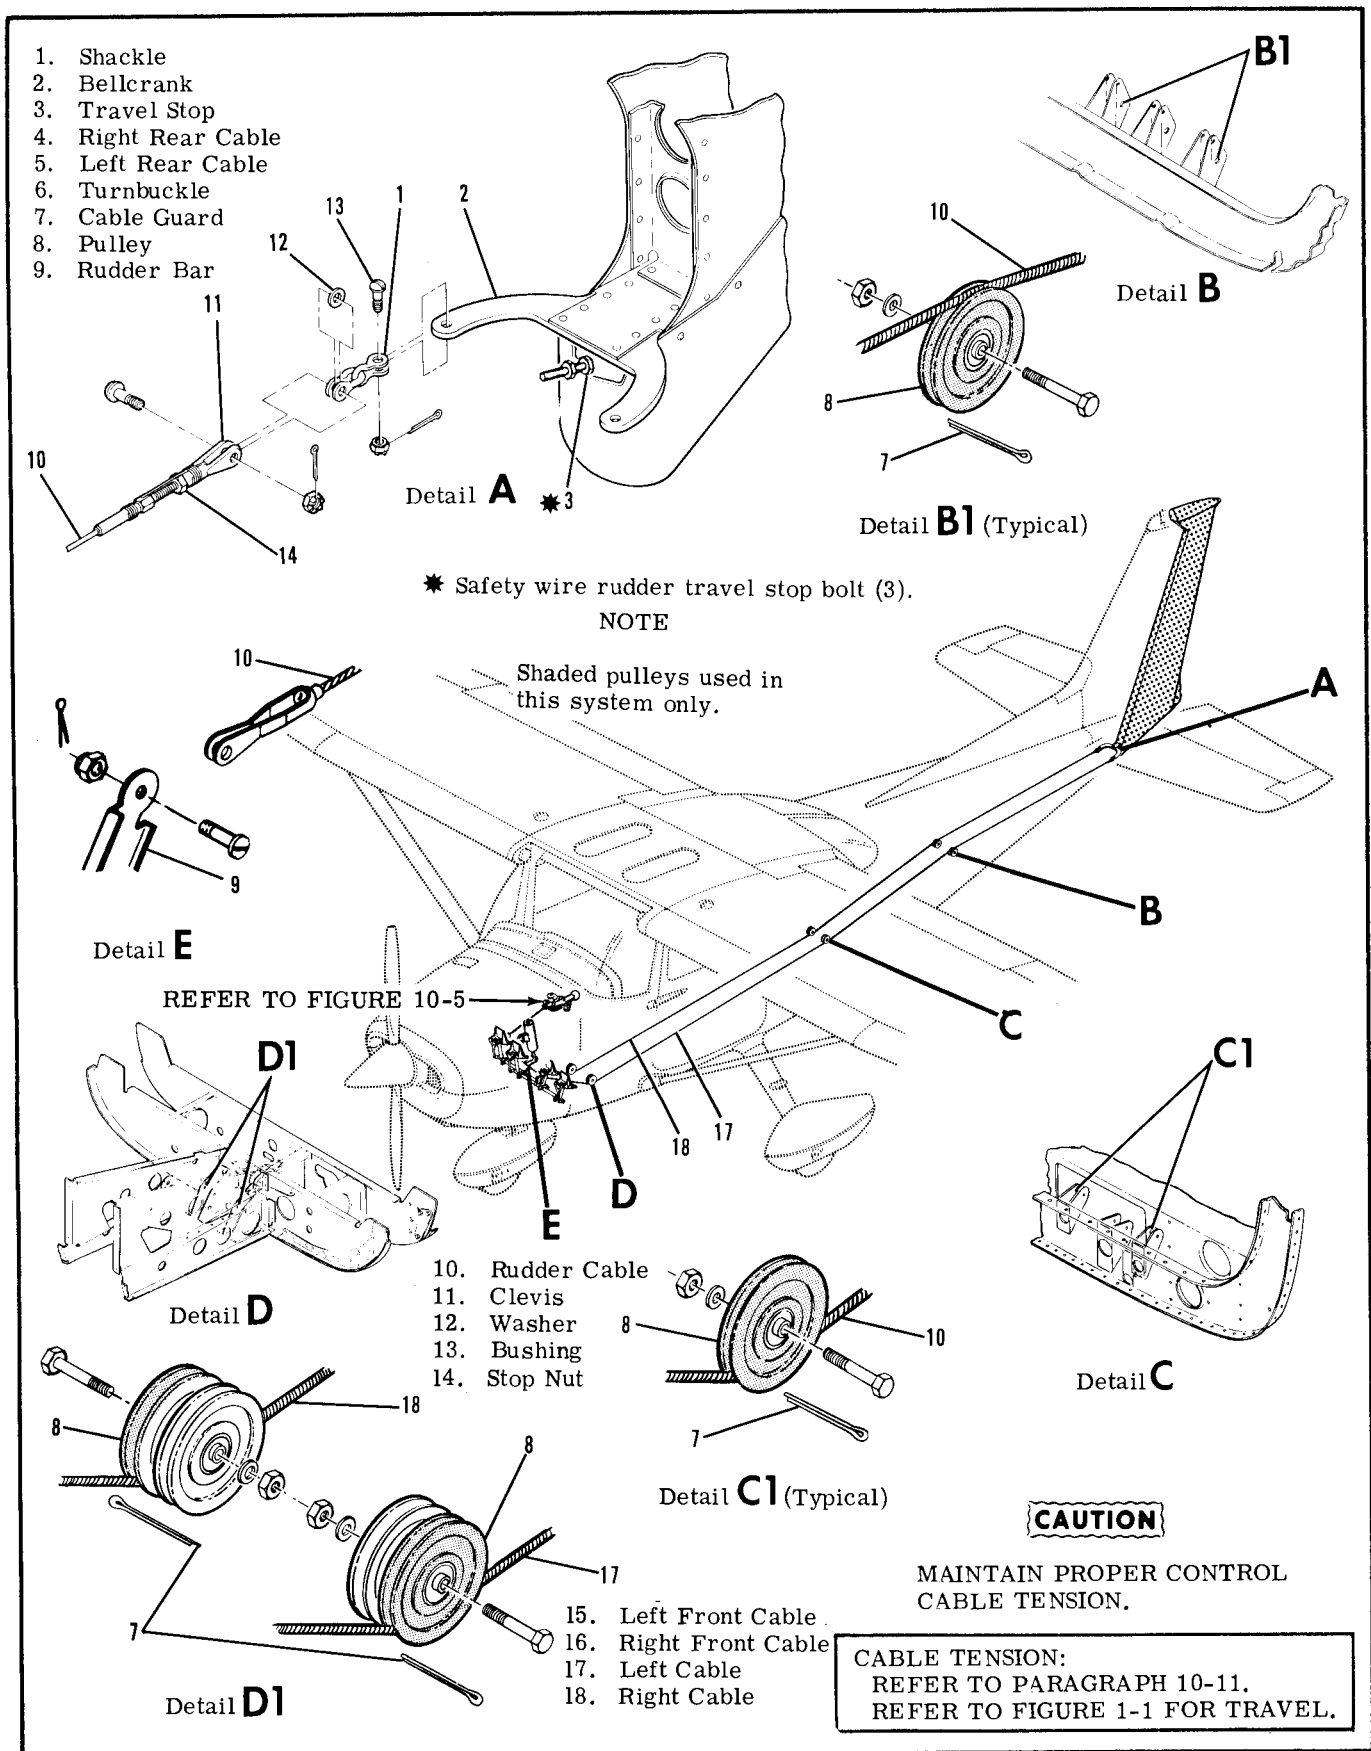

Figure 10-1. Rudder Control System
10-1. RUDDER CONTROL SYSTEM. (Refer to figure 10-1.)
- Disconnect master cylinders (12) at pilot rudder pedals.
- Remove rudder pedals (2) and brake links (5).
- Relieve cable tension at clevises (index 11, figure 10-1).
- a. Disconnect tail navigation light quick-disconnect (13).
- b. Relieve cable tension at clevises (index 11, figure 10-1) and disconnect clevises from rudder bellcrank (12).
- c. With rudder supported, remove hinge bolts (1) and lift rudder free of vertical fin.
10-9. CABLES AND PULLEYS. (Refer to figure 10-1.)
10-11. RIGGING. (Refer to figure 10-1.)